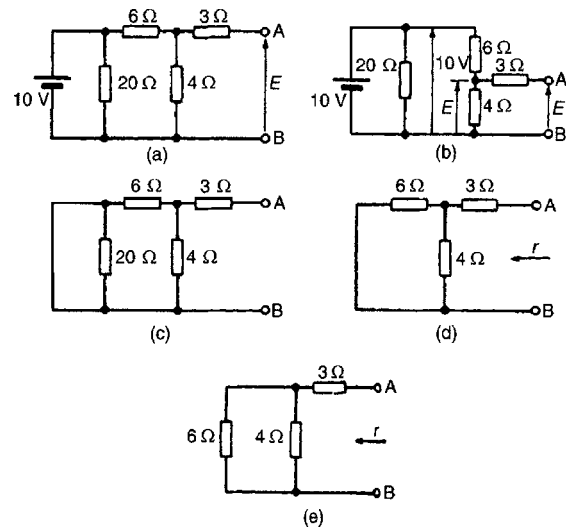

Figure 13.33
- (v) For the circuit shown in Fig. 13.33(a), the $3\ \Omega$ resistor carries no current and the p.d. across the $20\ \Omega$ resistor is 10 V . Redrawing the circuit gives Fig. 13.33(b), from which
- (vi) If the 10 V battery in Fig. 13.33(a) is removed and replaced by a short-circuit, as shown in Fig. 13.33(c), then the $20\ \Omega$ resistor may be removed. The reason for this is that a short-circuit has zero resistance, and $20\ \Omega$ in parallel
with zero ohms gives an equivalent resistance of $(20 \times 0)/(20 + 0)$ i.e. $0\ \Omega$. The circuit is then as shown in Fig. 13.33(d), which is redrawn in Fig. 13.33(e). From Fig. 13.33(e), the equivalent resistance across AB,